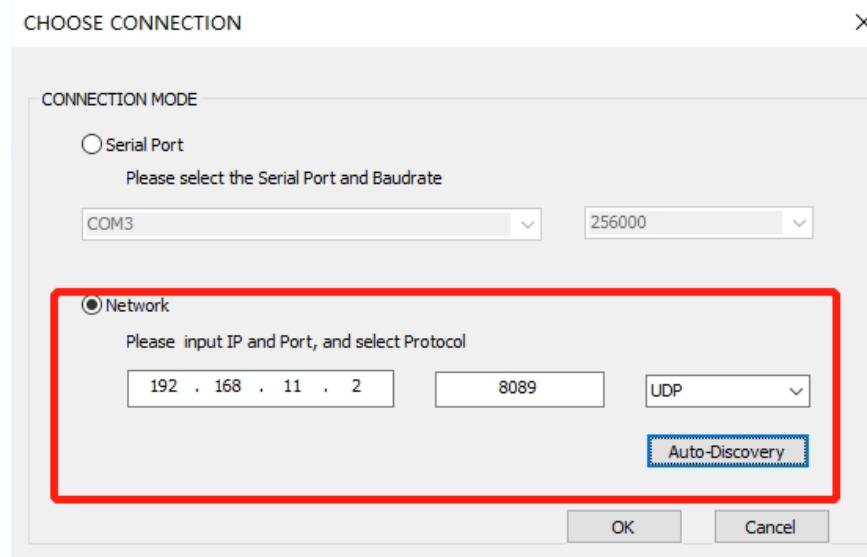

Figure 3-3 Selection Interface of Lidar Connection
- 4) Click "OK" in Figure 3-3 and then click  to scan point cloud, as shown in Figure 3-5. For SDK, please refer to startScanExpress and grabScanDataHq.